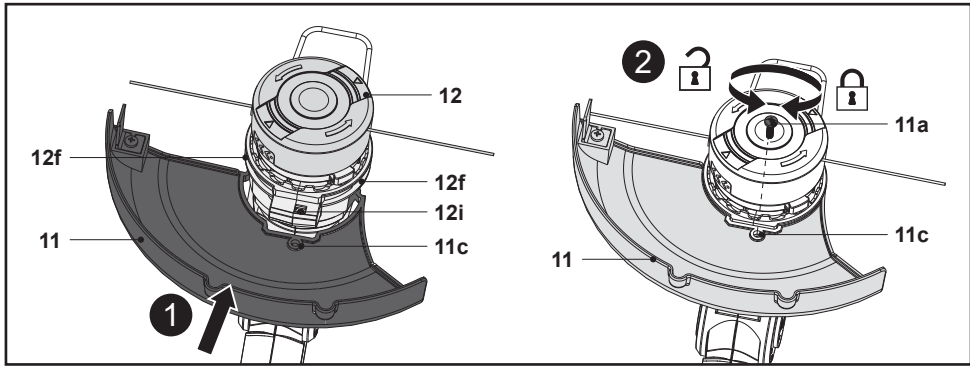

Fig. 1
1. Turn the trimmer head (12) upside down.
2. Align two tips of the guard (11) with the sliding slots (12f) of the trimmer head (12) (Fig. 1, step 1). Fully insert the guard (11) and make sure that the screw holes (11c, 12i) are well aligned.
3. Secure the guard (11) with the screw (11a) in clockwise (Fig. 1, step 2).